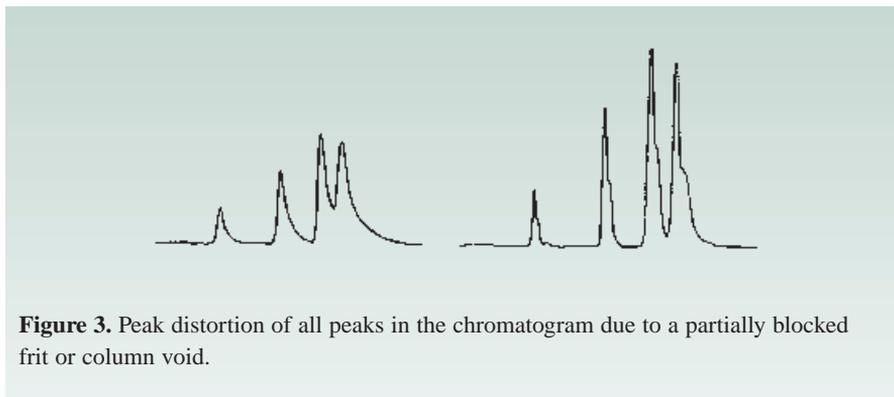
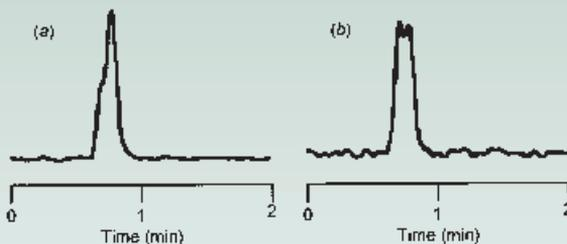

Figure 3. Peak distortion of all peaks in the chromatogram due to a partially blocked frit or column void.
Figure 4. Split peaks due to the presence of a second component. (a) 25 ng/mL, and (b) 10 ng/mL of drug (second peak) in plasma. Adapted from [1].
1.3. Peak tailing or distortion for all peaks in the chromatogram usually is the result of a physical, rather than a chemical problem. When all peaks in the chromatogram show the same type of distortion (Fig. 3), the initial problem occurred before the analytes began migrating through the column. The most common cause of this type of peak distortion is a partially blocked frit or a void
1.4. Poorly resolved peaks can masquerade as a column or a buffer problem. If two peaks are only partially resolved, peak splitting or doubling can occur. This is seen in Figure 4. In Figure 4a, peak distortion, much like that of Figure 3, was observed, suggesting a blocked frit. Changing the column did not correct the problem, so a blocked frit was unlikely. When the mass of sample on column was reduced (Fig. 4b), the peak looked more like two peaks than a shoulder. This led to further investigation and it was determined that a second peak was present. The method conditions were modified to fully separate the two peaks.